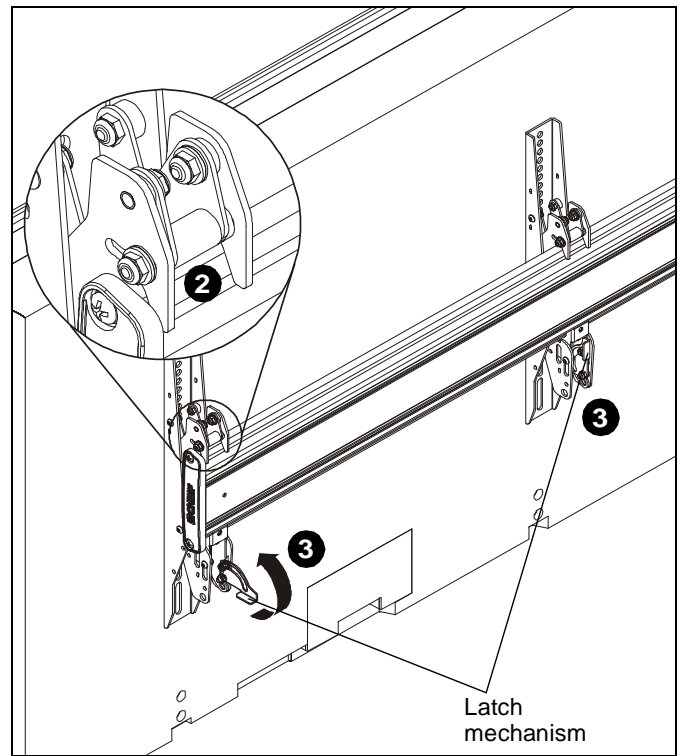

Figure 10
- While supporting both sides of display, lower display onto one side of ceiling mount, hooking top of interface brackets onto front of ceiling mount. (See Figure 10)
- Raise the latch mechanism on both interface brackets to lock bracket in place. (See Figure 10)
- While supporting both sides of second display, lower second display onto other end of ceiling mount, hooking top of interface brackets onto front of ceiling mount. (See Figure 10)